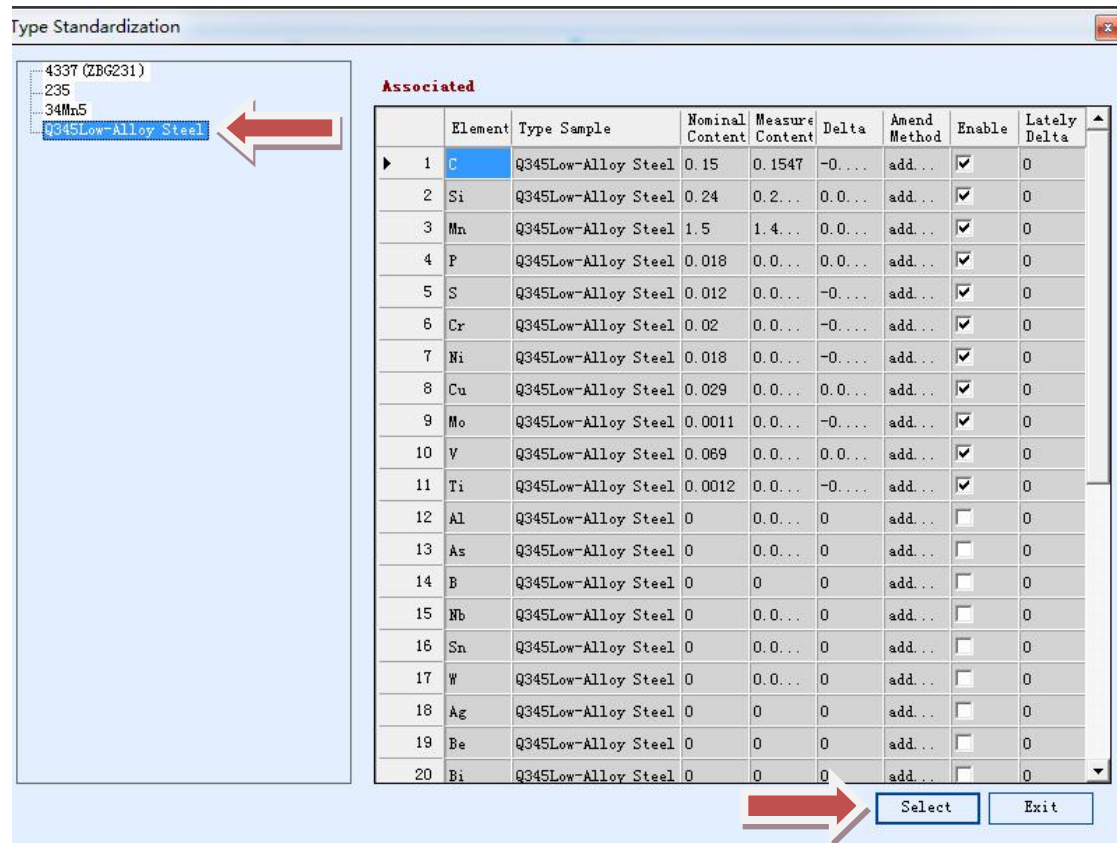

Figure 4-28 Selecting the sample
Step 2 Select the required control sample and click “Select”, as shown in Figure 4-28: